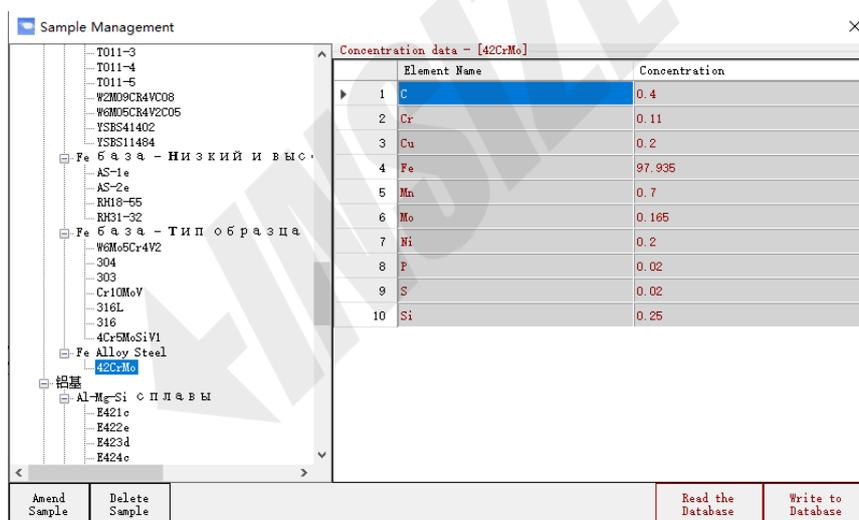

Figure 4-7 Confirm the content again
Step 4 Confirm the content again by comparing the content list, and click “Write to Database” and “Read the Database”, as shown in Figure 4-7: